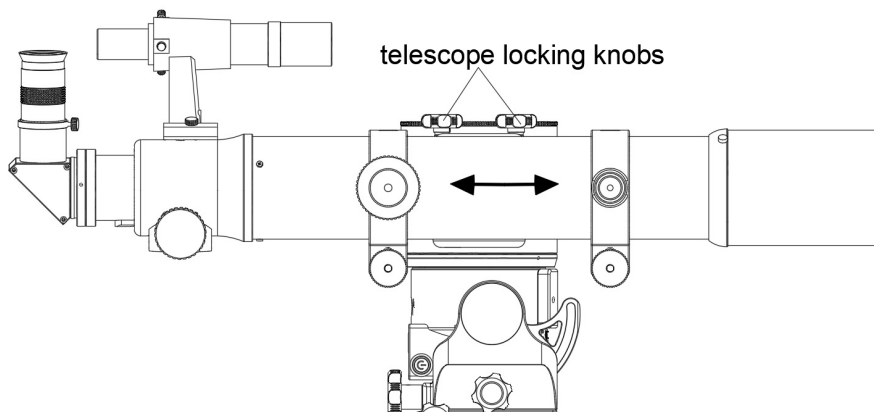

Fig. 12
* For non-tube ring mounting, keep holding the telescope, slightly loose the two telescope locking knobs and slide the dovetail bar in the groove to obtain balance and then firmly tighten the two telescope locking knobs.(Fig.12)